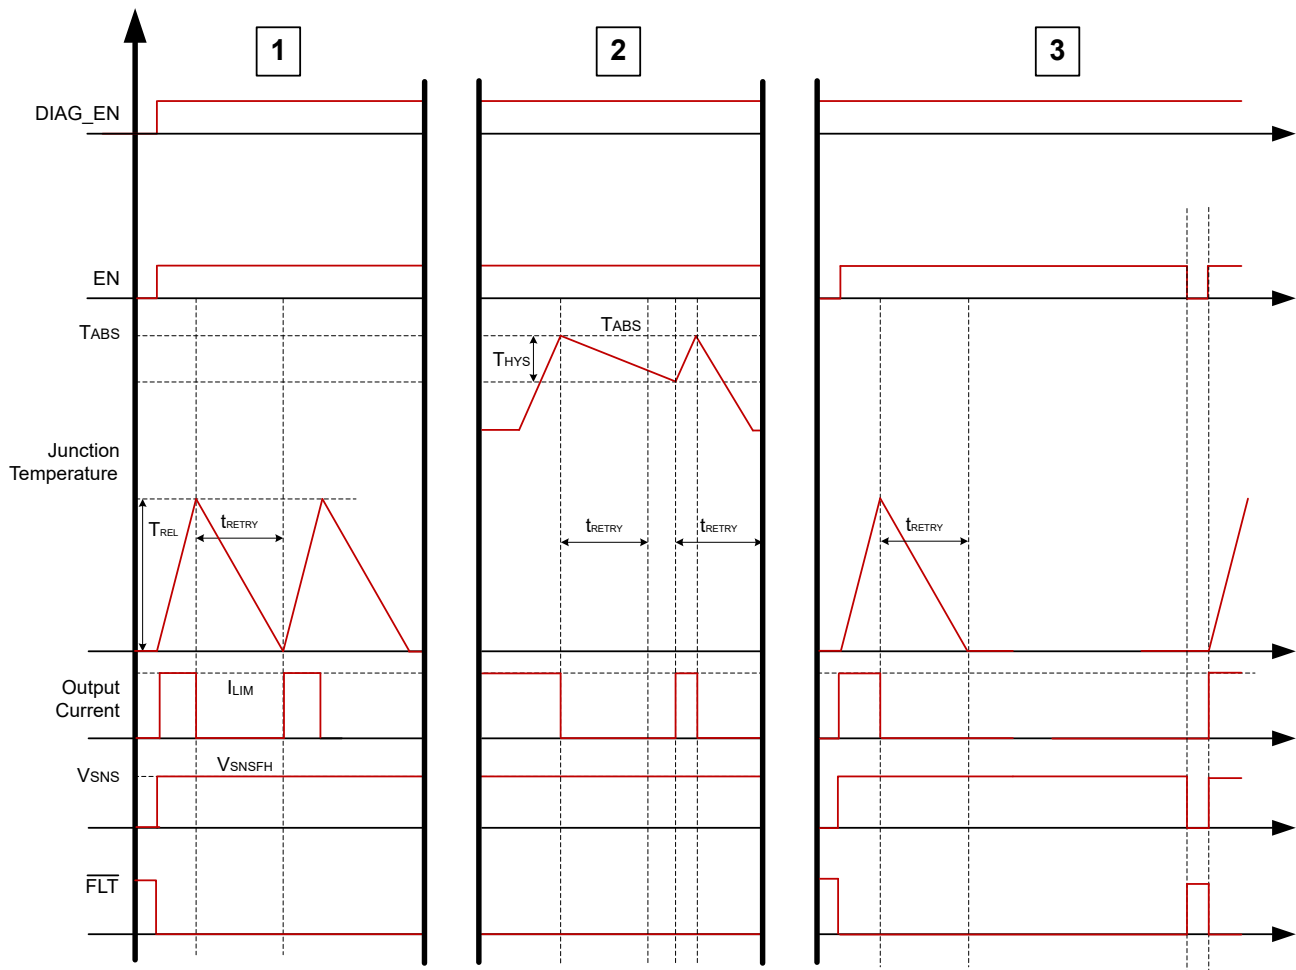

Figure 7-16. Thermal Behavior
The thermal protection behavior can be split up into three categories of events that can happen. Figure 7-16 shows each of these categories.
1. **Relative thermal shutdown:** the device is enabled into an overcurrent event. The output current rises up to the I_{LIM} level and the \overline{FLT} goes low. With this large amount of current going through the junction temperature of the FET increases rapidly with respect to the controller temperature. When the power FET temperature rises T_{REL} amount above the controller junction temperature $\Delta T = T_{FET} - T_{CON} > T_{REL}$, the device shuts down. For auto-retry version, after t_{RETRY} , the part tries to restart itself. Latch version will require EN to be toggled to re-enable the channel. The \overline{FLT} is asserted until the fault condition is cleared. The first plot in Figure 7-16 shows the relative thermal shutdown behavior for the auto-retry version.
2. **Absolute thermal shutdown:** the device is still enabled in an overcurrent event. However, in this case the junction temperature rises up and hits an absolute reference temperature, T_{ABS} , and then shuts down. For auto-retry version, the device does not recover until both $T_J < T_{ABS} - T_{hys}$ and the t_{RETRY} timer has expired. For latch version, toggling EN is required to re-enable the channel. The second plot in Figure 7-16 shows the absolute thermal shutdown behavior for the auto-retry version.
3. **Latch behavior:** the device is enabled into an overcurrent event. The DIAG_EN pin is high so that diagnostics can be monitored on SNS and FLT. For the latched version of the device, if the part shuts down due to a thermal fault, either relative thermal shutdown or absolute thermal shutdown, the device does not enable the channel until the EN pin is toggled. The third plot in Figure 7-16 shows the relative thermal shutdown behavior for the variants with LATCH pin when LATCH pin is HIGH.